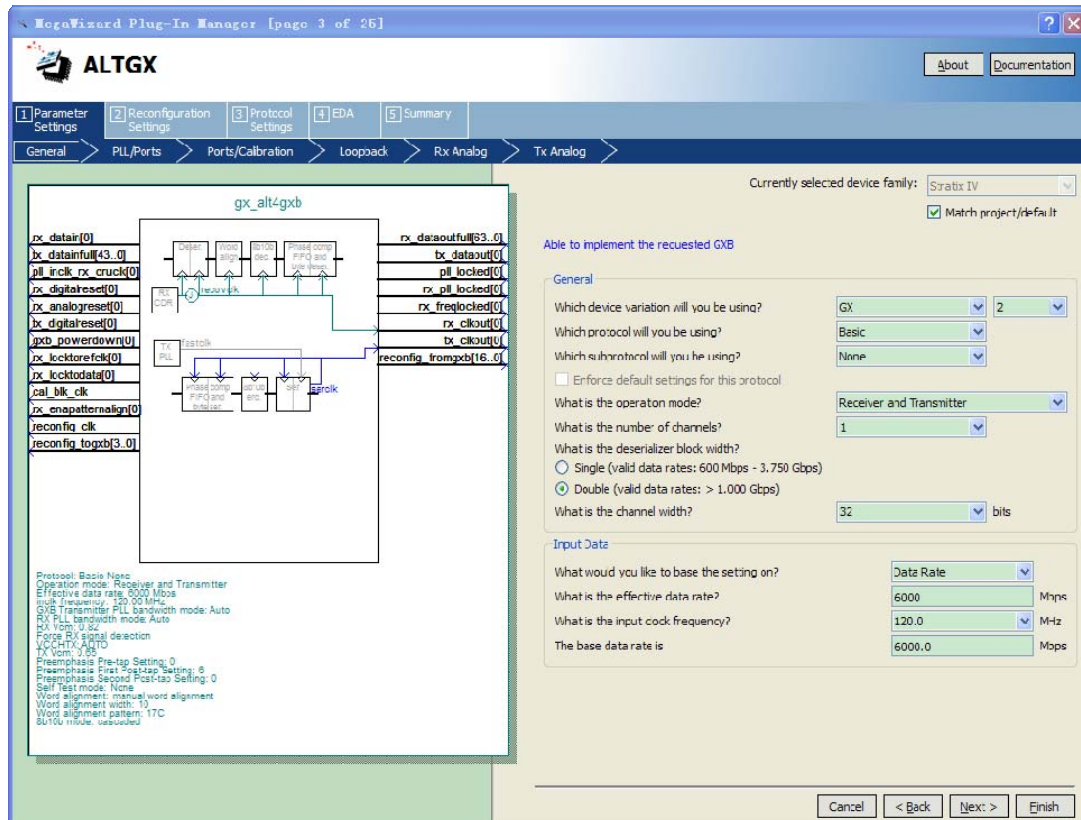

Figure 4-3 ALTGX Megacore
4. The IP core used to transfer data between two TR4 boards is “ALTGX”. The user can configure operation mode, base data rate, and other items as show in **Figure 4-3**.